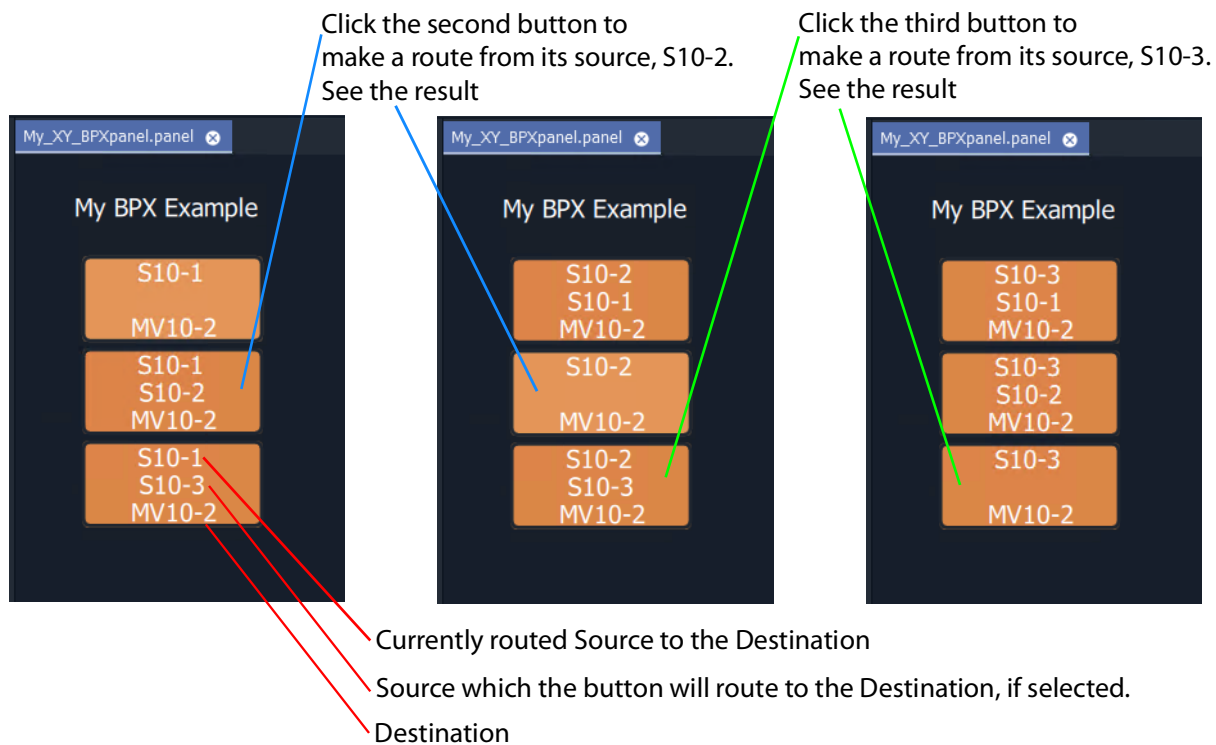

Fig. 12-54: BPX Panel Running
- 2 Operate the panel. See Figure 12-54.